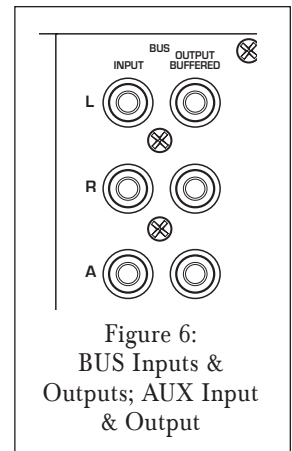

Figure 6:
Source Connections (see Figures 6 & 7)
- Connect stereo source components (receiver, preamp, page signal, etc.) that will feed all 8 channels to the BUS LEFT & RIGHT inputs (see Figure 6).
- Connect a mono auxiliary source (page signal, electronic doorbell, etc.) that will feed all 8 channels to the BUS AUX input (see Figure 6).
- Connect additional amplifiers to the buffered *Bus Outputs* (see Figure 6). The source connected to the BUS LEFT & RIGHT Inputs appears at the L and R OUTPUTS, and the source connected to the BUS AUX input appears at the AUX OUTPUT.